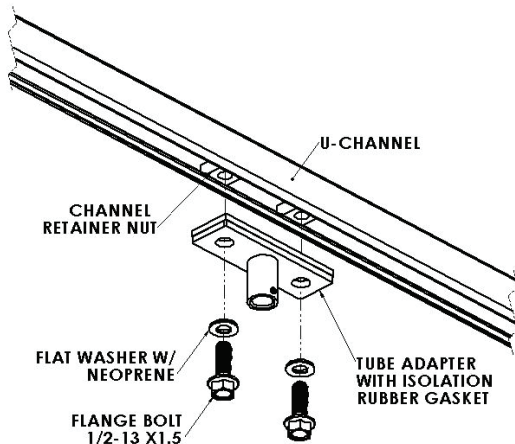

Figure 1
Step 1: Install tube adapter to U-channel using the provided flange bolt, flange washer with neoprene and channel retainer nuts. First, insert the channel retainer nuts inside the U-channels then line up the holes of the tube adapter to the threaded holes of the channel retainer nuts. Secure tube adapter to U-channel with the flange bolts and flange washer. Slide and position the tube adapter to desired location along the U-Channels then tighten flange bolts permanently (Figure 1).